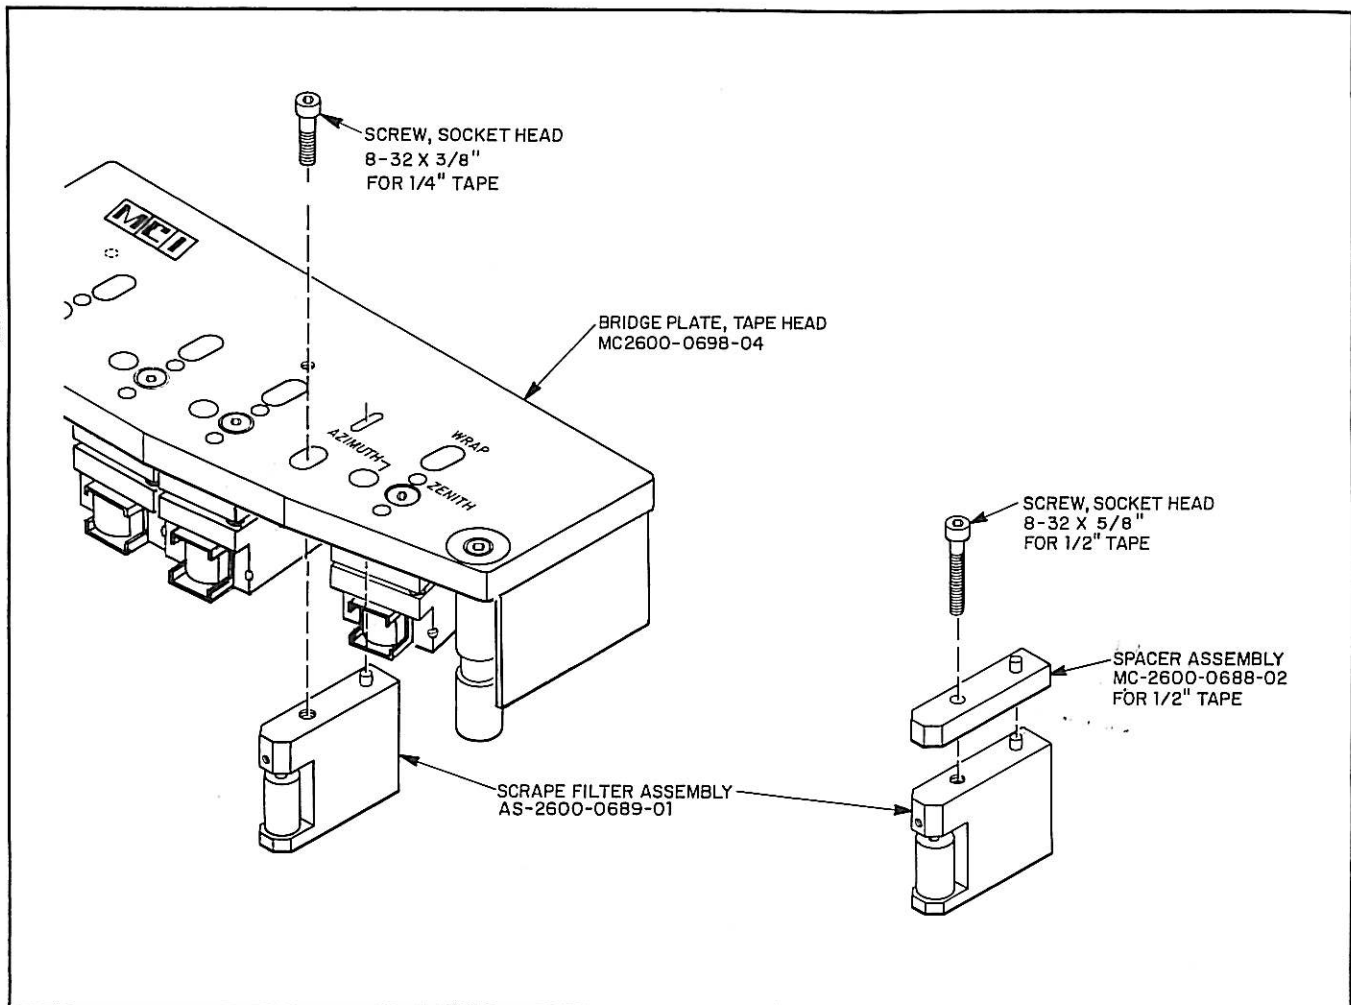

Figure 7-12 Scrape Filter Removal
- Step 2. Remove the Scrape Flutter Filter Assembly from the head bridge assembly. See figure 7-12.